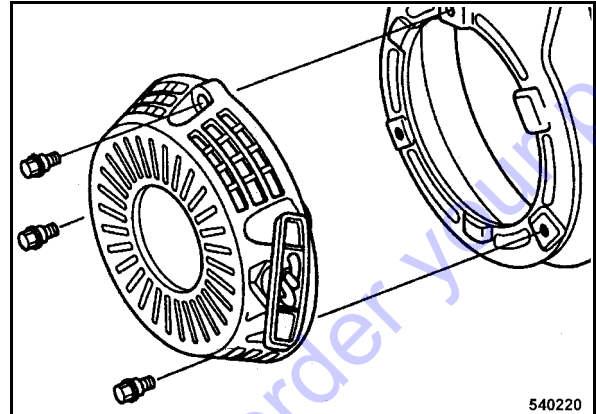

Fig. 67
- Disassemble the recoil starter from the engine housing (Fig. 67).